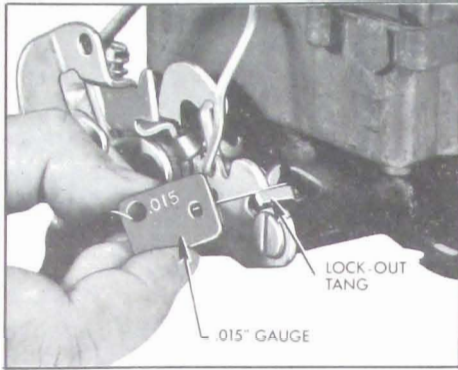

Figure 3-56—Checking Secondary Lock-Out Adjustment
5. Secondary Lock-Out Adjustment. Close choke valve so that secondary throttle lock-out tang is on lock-out step of fast idle cam. Check clearance between tang and step using .015" gauge. See Figure 3-56.